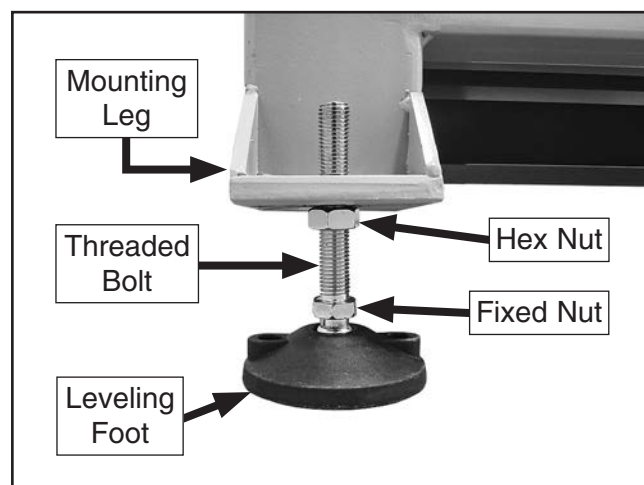

Figure 10. Leveling foot components.
4. Have an additional person tighten hex nuts on leveling feet halfway on threaded bolt, then thread leveling feet into machine mounting legs (see **Figure 10**).
2. Loosen top leveling foot hex nut and adjust bottom fixed nut on threaded bolt (see **Figure 10**). Tighten hex nut against mounting leg to secure.